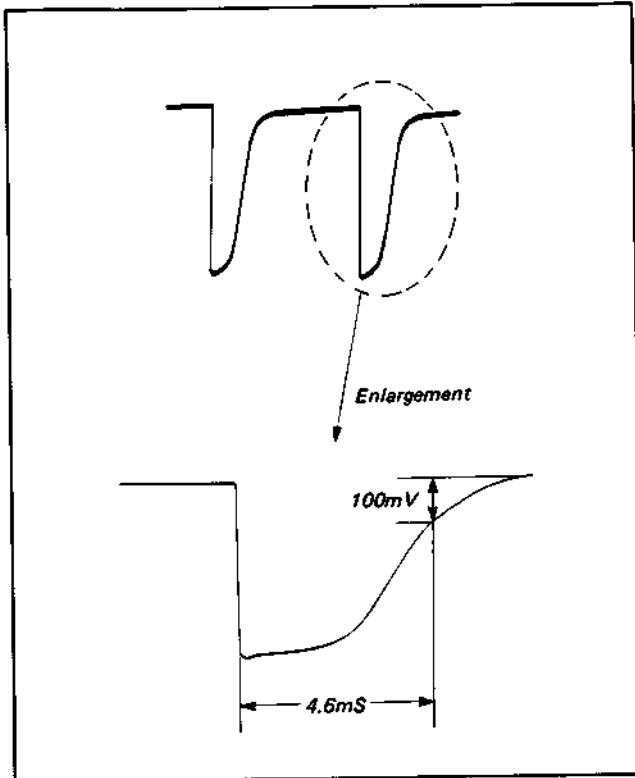

Fig. 2-18
- 2) Turn RV524 so as to align the point where the voltage is 100mV lower than the fully voltage value with the point of  $4.6 \pm 0.2\text{mS}$  as shown in Fig. 2-18.